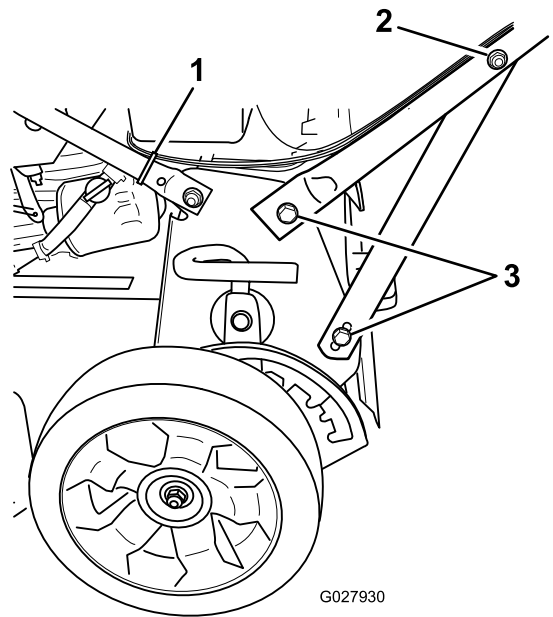

Figure 4
4. Tighten the fasteners that support the handle on both sides of the machine as shown in Figure 4.
2. Nut on handle support bracket (2)
3. Bolt (4)
5. Use a cable tie to secure the cables to the lower handle in the location shown in Figure 4.